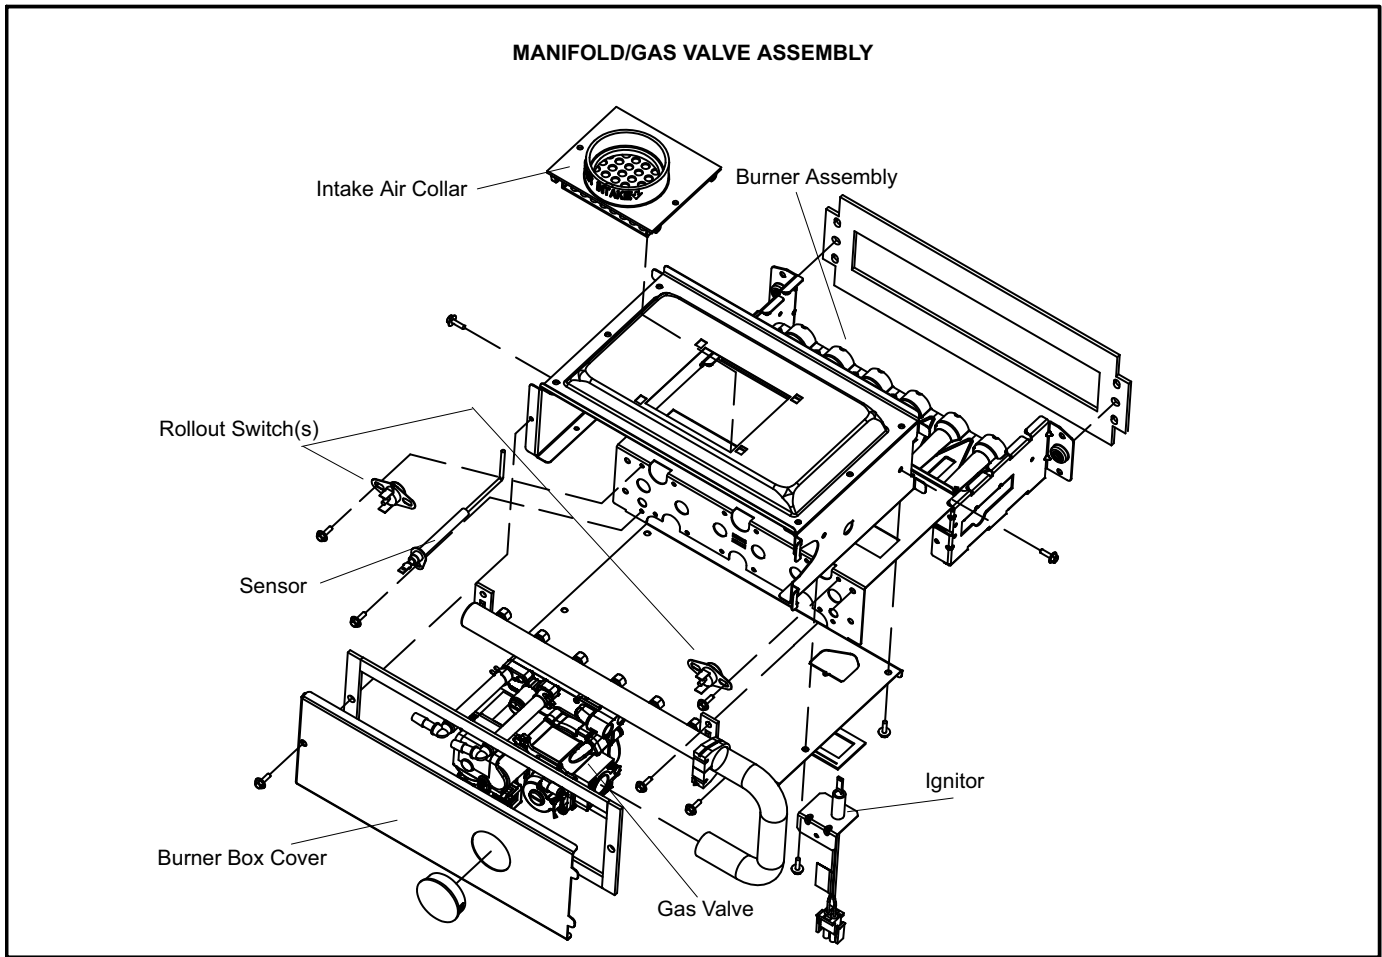

FIGURE 1
- 4 - If necessary remove the wires from the ignitor and sensor (mark wires). Remove the burner box cover (if equipped) and set aside. Remove the four manifold securing screws. Slide the manifold/gas valve assembly out of the burner box. See figure 1.
- 5 - Replace the burner orifices with the provided gas orifices. Torque to approximately 35 in-lbs. Do **not** use sealant on orifices. Figure 1 shows manifold/gas valve assemblies.